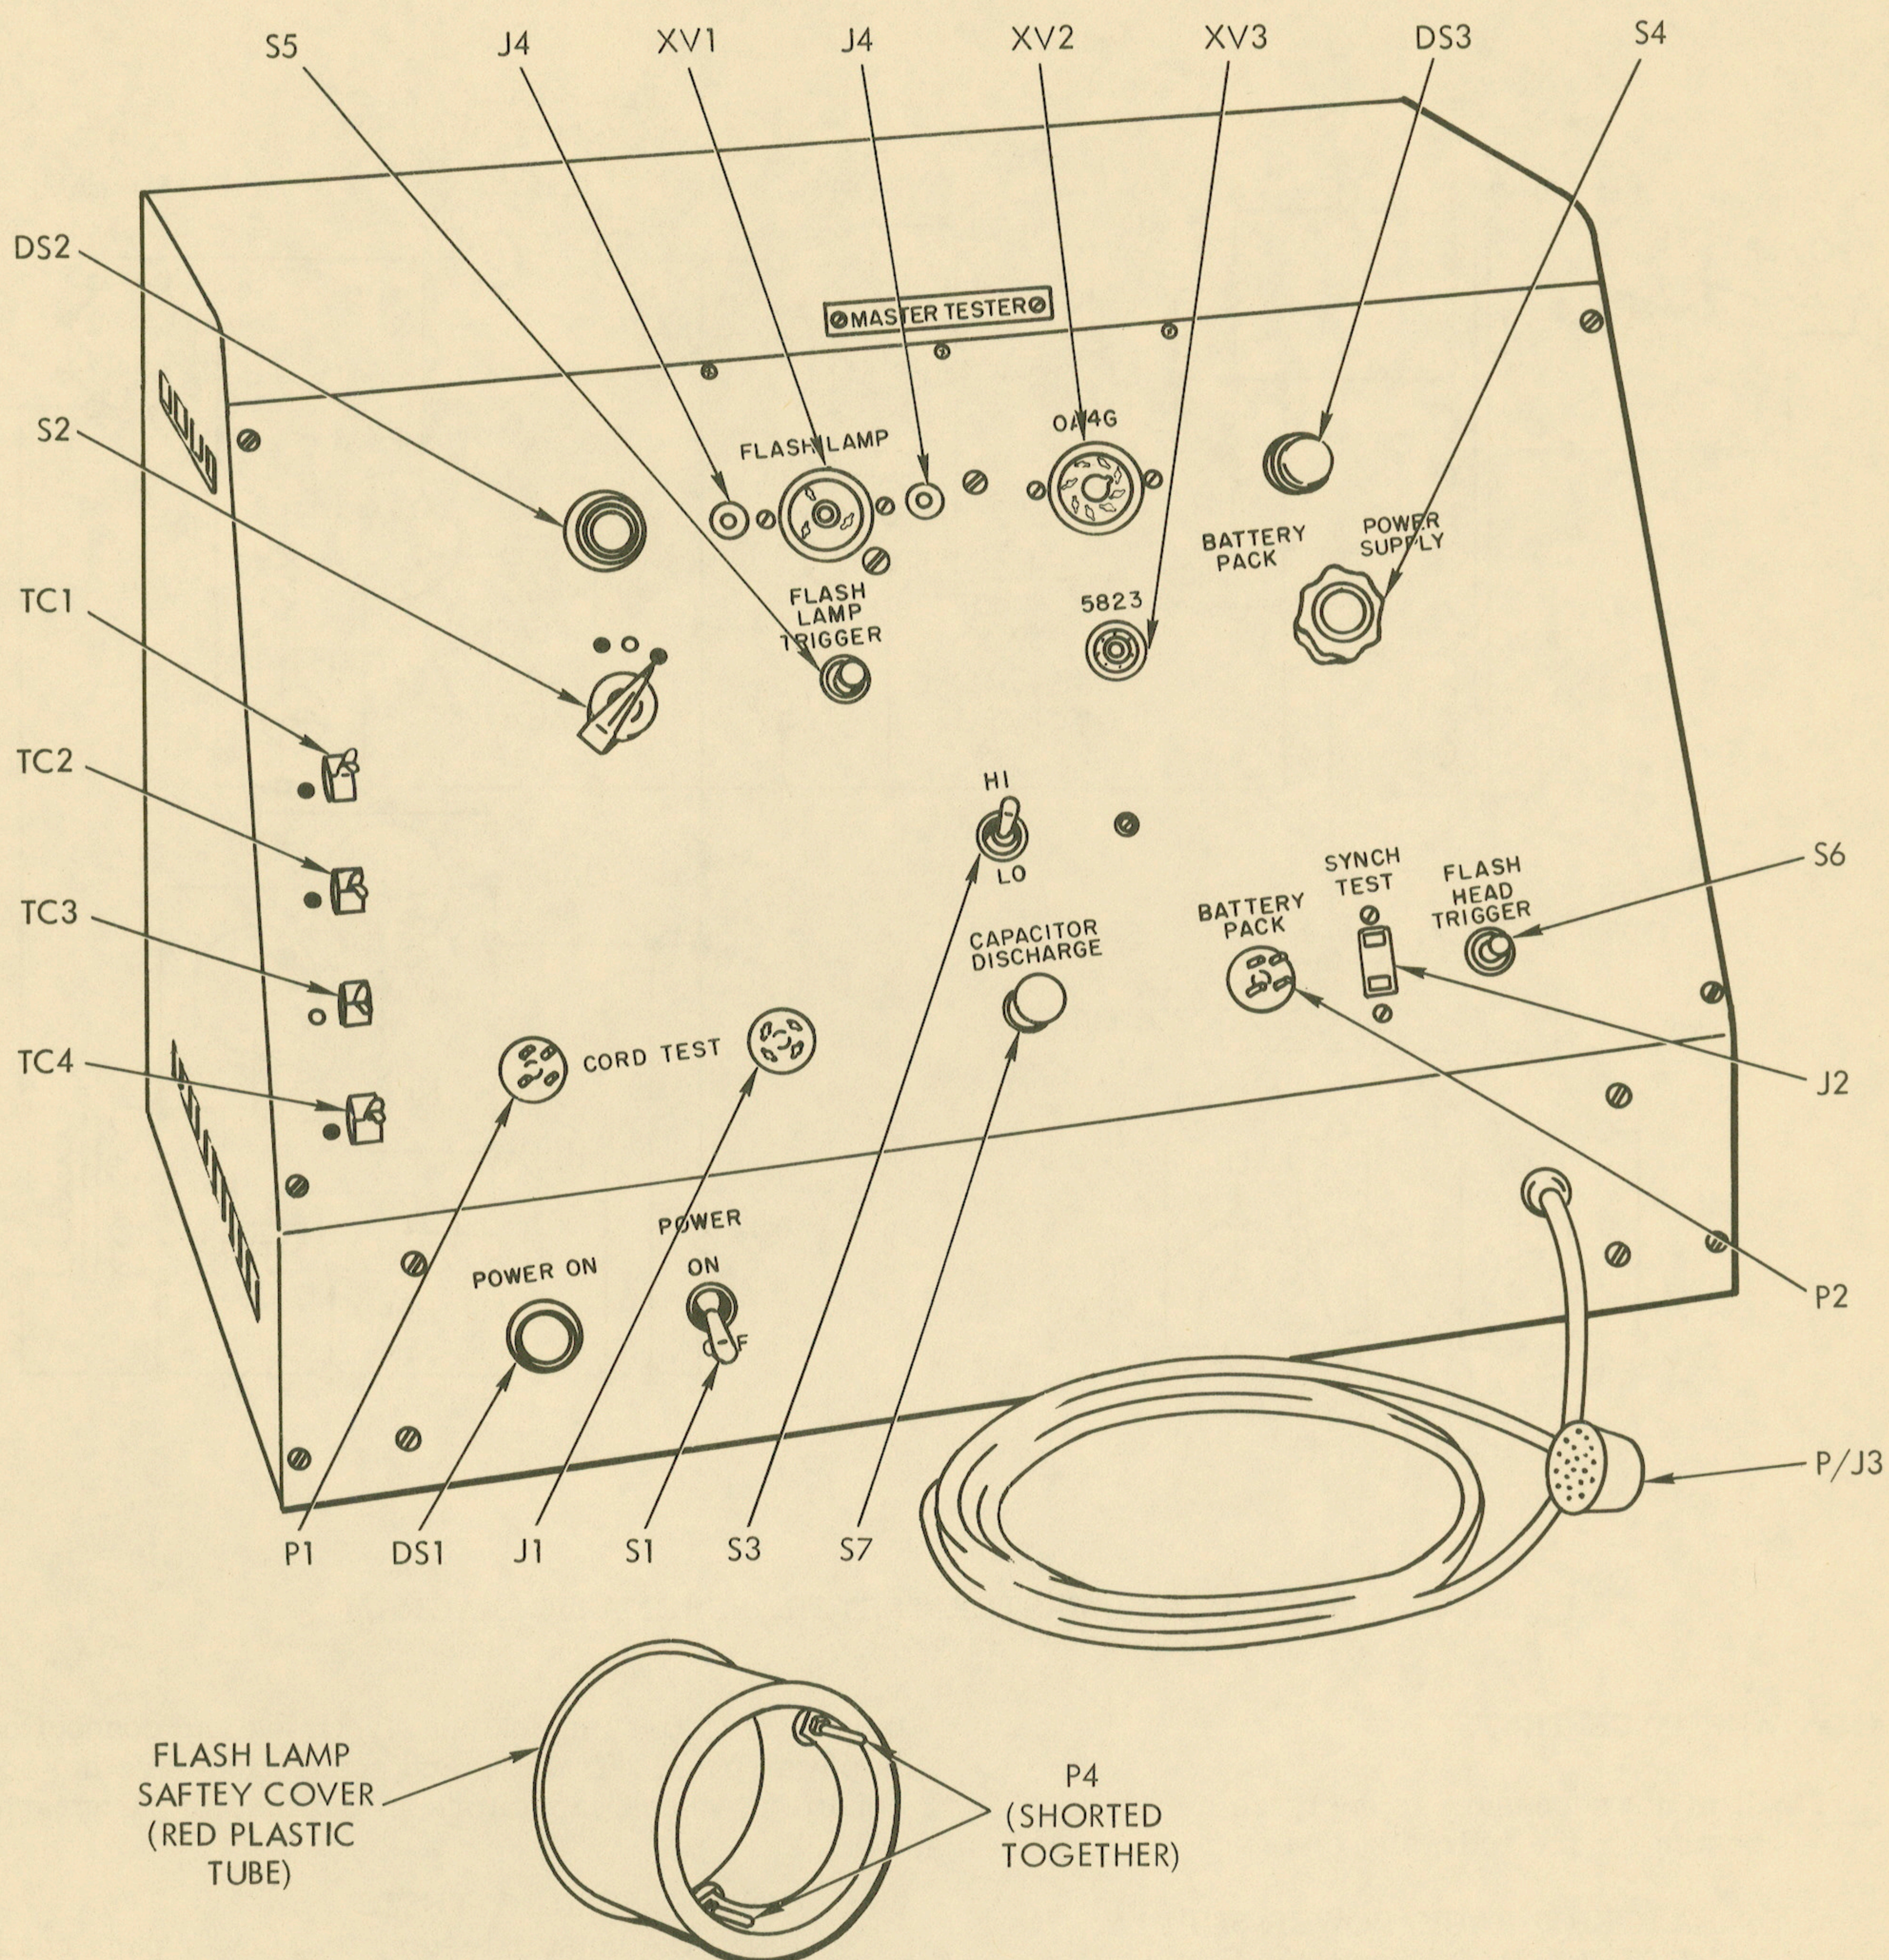

Figure 5. STROBOFLASH MASTER TESTER, FRONT VIEW
1. Stroboflash Master Tester (see figure 5)
NOTE: Paragraphs G and H and figures 5 through 8 provide necessary information for construction, operation, and calibration of the master tester.
The Stroboflash Master Tester is a special piece of test equipment that provides for checking all electrical functions of the Stroboflash equipment. This equipment will help to isolate trouble areas within the electrical circuits of the lamphead or power pack with minimum time and effort. An equivalent tester may be constructed locally by referring to figures 5 through 8 and the list of materials given on page 7.